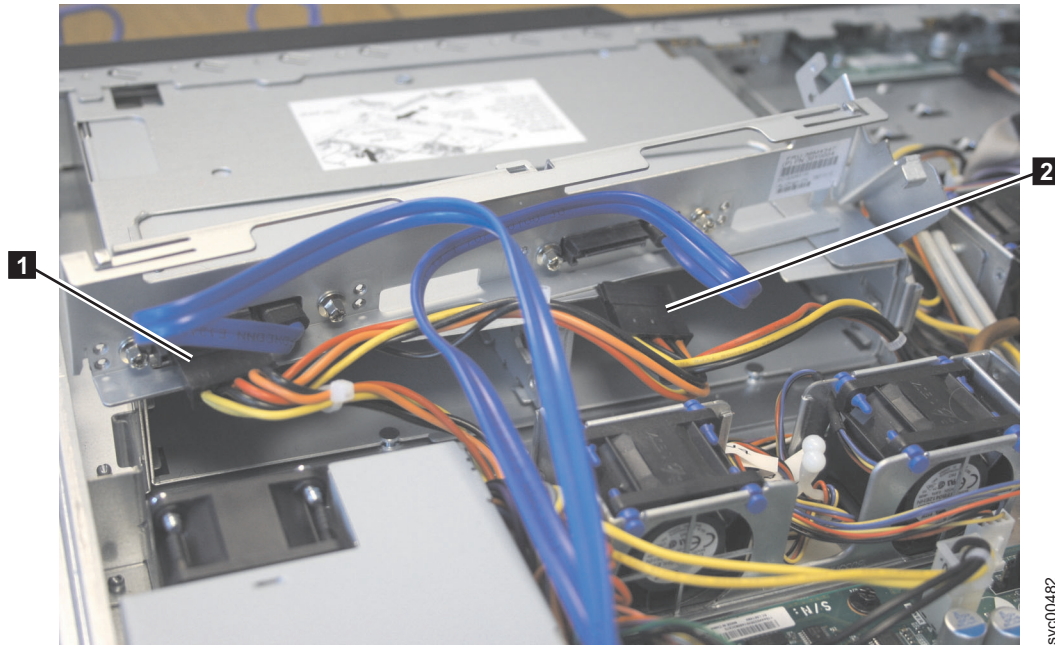

Figure 121. SAN Volume Controller 2145-8A4 power supply connectors
10. Slightly lift the back plate out of the node. Disconnect power cable connectors P2 **1** and P3 **2**, shown in Figure 121 on page 119, and remove the back plate.